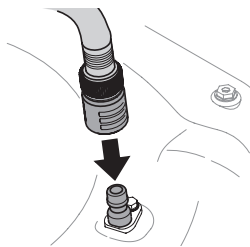

Figure 23
3. Attach garden hose with the deck wash nozzle to the water port on your deck's surface (Figure 23).